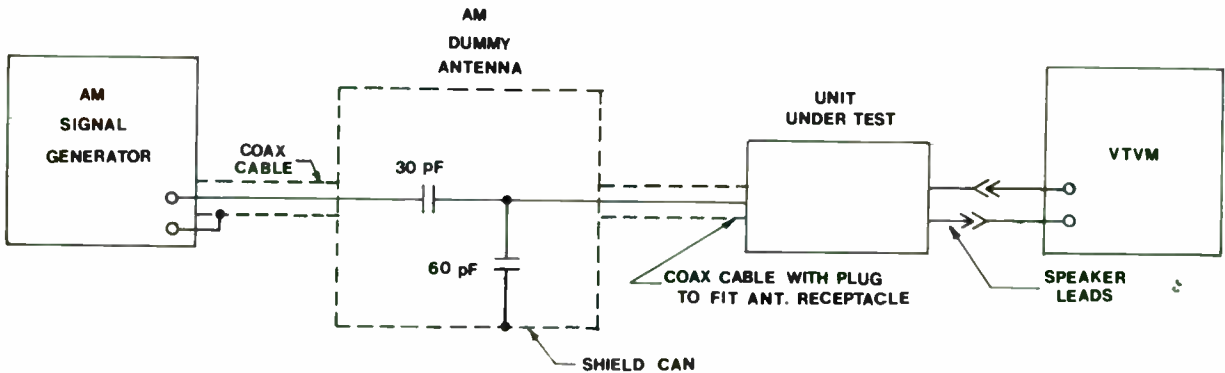

Figure 5 — Test connections for AM IF and RF alignment.
- Dummy Antenna (See Fig. 5)
- Make connections as shown in Fig. 5: